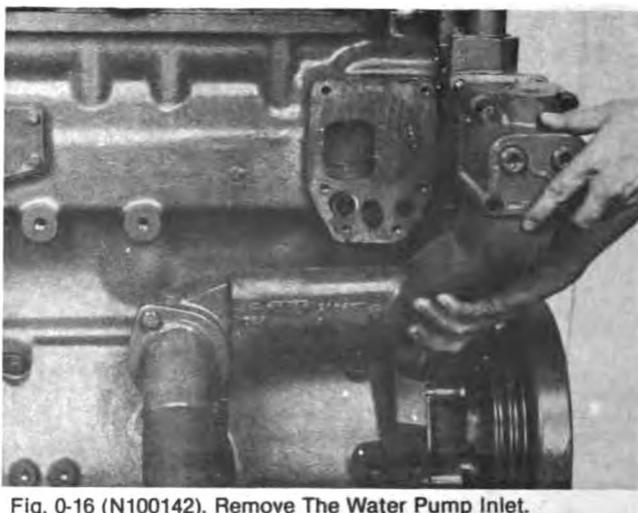

Fig. 0-16 (N100142). Remove The Water Pump Inlet.
2. Remove the capscrews, lockwashers and flat-washers that hold the inlet for the water to the water pump. Remove the inlet and discard the gasket, Fig. 0-16.